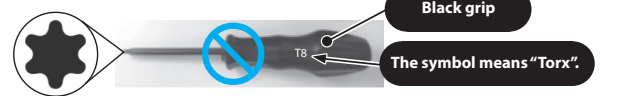

Fig. 2 "Torx" Wrench (Do NOT use it for MEW)
2. Ref. to Fig. 2 for "Torx" Wrench. (Black grip)